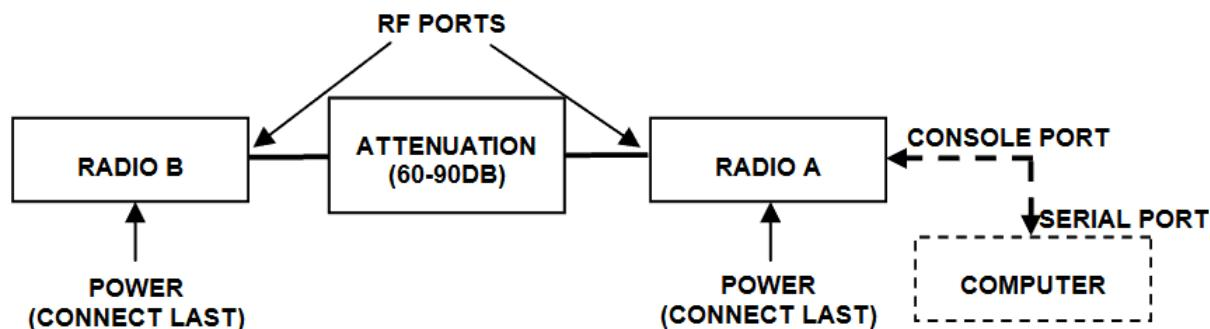

Figure 41 Basic back-to-back bench test configuration
- 1 Connect attenuation and (known-good) RF cable(s) between radio pair, shown in Figure 41.
Connect the system as shown in Figure 41, using the combination of fixed and variable attenuation between the radio's RF ports. Connect the volt meter to either radio's RSL test point and associated reference ground connection.